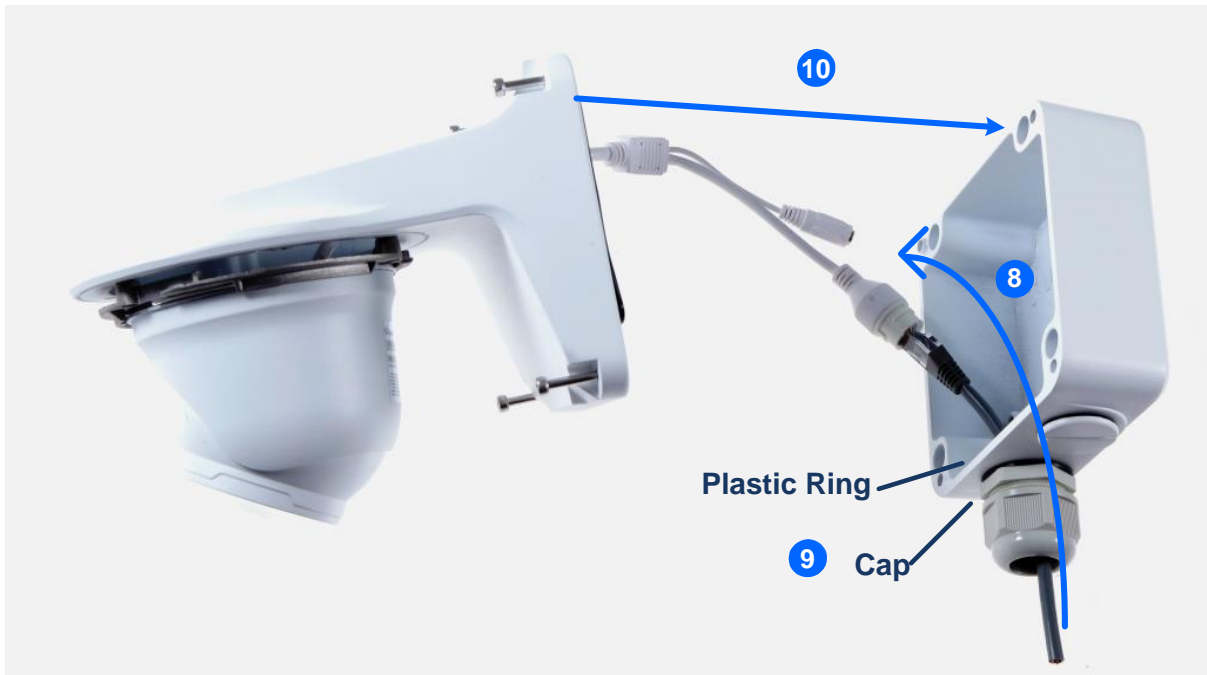

Figure 1-27
8. Thread the Ethernet cable through the PG21 conduit connector and the power box as shown in No. 8, *Figure 1-27*. Then connect the cable to the camera. To waterproof the cable, see *1.8 Waterproofing the Cable*.
9. Rotate the plastic ring to secure the conduit connector to the power box. Screw in the cap as shown in No. 9, *Figure 1-27*.
10. Screw the wall mount bracket to the power box as shown in No. 10, *Figure 1-27*.